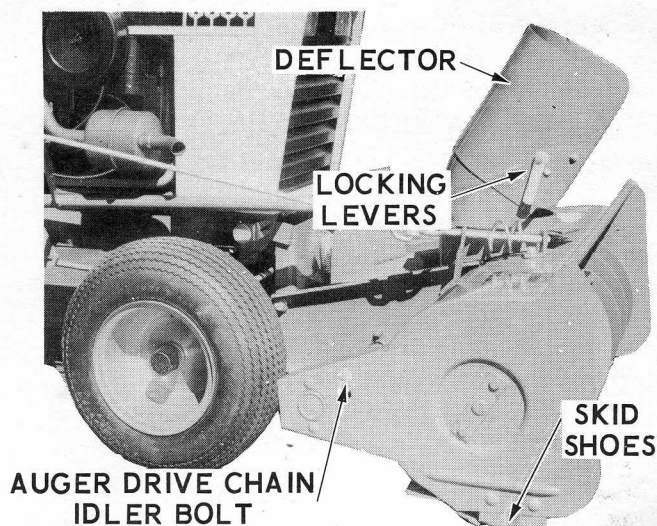

Figure 6.
2. Deflector - See Figure 6. The deflector has a slotted hole on each side for adjustment. To change the angle of the deflector, loosen the two locking levers. By angling the deflector upward, the snow will be cast higher and further from the tractor. When angled downward, the deflector will direct the snow closer to the ground and it will be cast a shorter distance. Tighten the locking levers when the deflector is adjusted to the desired angle.
3. Skid Shoes - See Figure 6. Slotted mounting holes are provided to obtain the desired clearance between the base of the auger housing and the surface of the area to be cleared. When operating on a smooth surface such as cement or asphalt, the skid shoes can be set at the lower end of the slots. If operating on a rough surface such as gravel or earth, the skid shoes should be set at the upper end of the slots to prevent foreign material from entering and possibly damaging the snow blower.